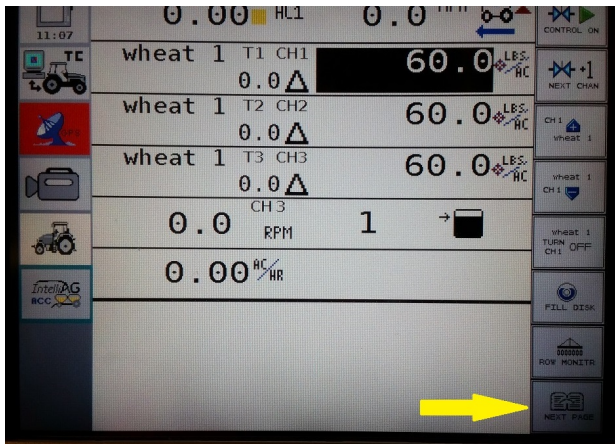

Figure 31
Step 2. Select **Next Page** (Figure 31)